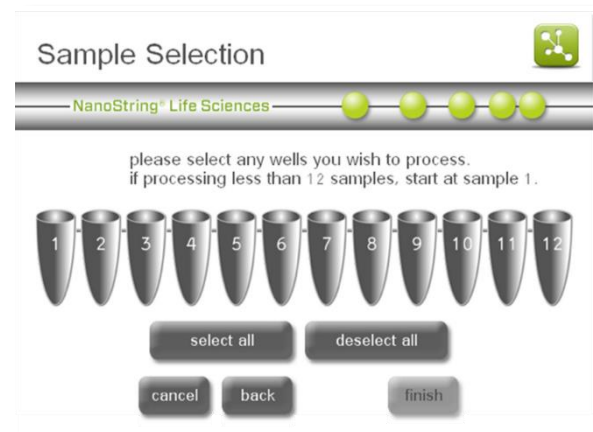

Figure 138: The 'Sample Selection' screen.
4. The 'Sample Selection' screen will appear (**Figure 138**). After selecting the samples to be processed, press **finish**.